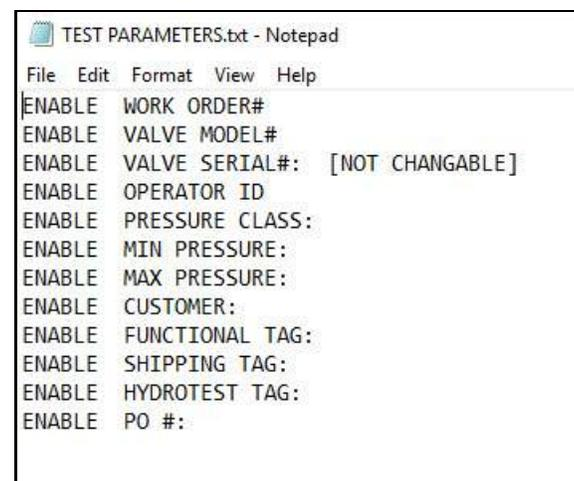

FIGURE 3-6. TEST PARAMETER DEFAULT TITLES
2. Open the TEST PARAMETERS.txt file (see Figure 3-6) and follow these instructions: